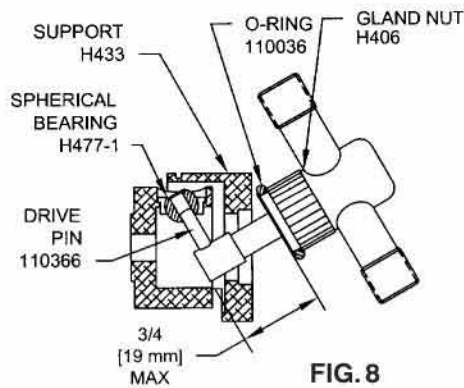
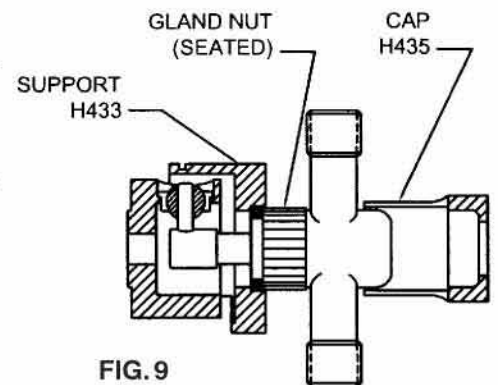

FIG. 8
FIG. 9
**20. REMOVING PISTON/CYLINDER GROUP ASSEMBLY.** (refer, Fig 8.) remove two 110655-20 screws and while holding cylinder ports in place, slip part H435 off of CYLINDER ASSEMBLY H422. Tilt the assembly
as shown in **figure 8**. This will permit removal of PISTON DRIVE PIN 110366 from SPHERICAL BEARING H477 **without fully withdrawing piston from liner.**
**22. PISTON/CYLINDER GROUP ASSEMBLY REPLACEMENT.** (refer, figs. 8 & 9) Install "O" RING 110036 over GLAND NUT H406. Note in fig. 8 that PISTON DRIVE PIN 110366 must be guided into SPHERICAL BEARING H477-1 while the piston and cylinder remain assembled. This for the purpose of avoiding assembly damage to the seals. When PIN is in bearing, seat GLAND NUT with "O" RING in SUPPORT H433 as shown in fig. 9. **OPERATE PUMP MANUALLY FOR SEVERAL STROKES BEFORE APPLYING POWER.**